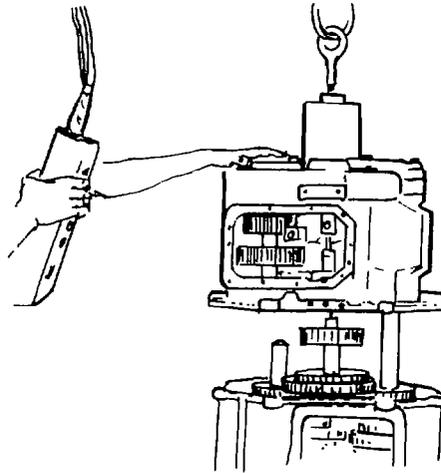

Fig. 202 — Positioning Rear Case Assembly
- j. Apply a silicone sealer to the rear end of the front case and install the case-to-case gasket. Paint the rim of the gasket with sealer then lower the rear case assembly over the assembled countershafts (see fig. 202).